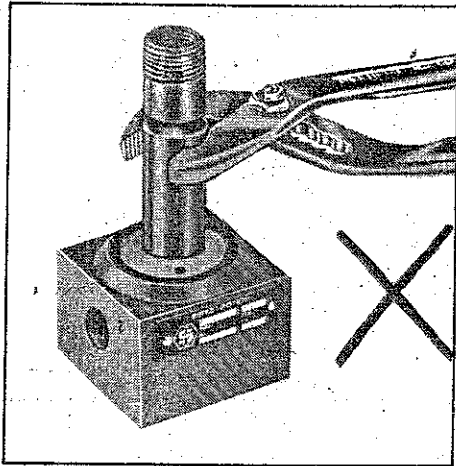

Fig. 7
12. Please do not try or remove the Guide Tube with pliers (Fig. 7) and if you do so, you are risking to squeeze the tube and then the plunger will get jammed as the movable plunger is guided by the tube.